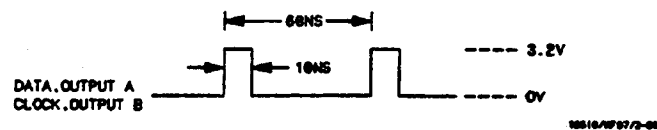

Figure 3-3. Pulse Generator Waveform For Test 1
2. Set the pulse generator as follows for the output shown in figure 3-3.